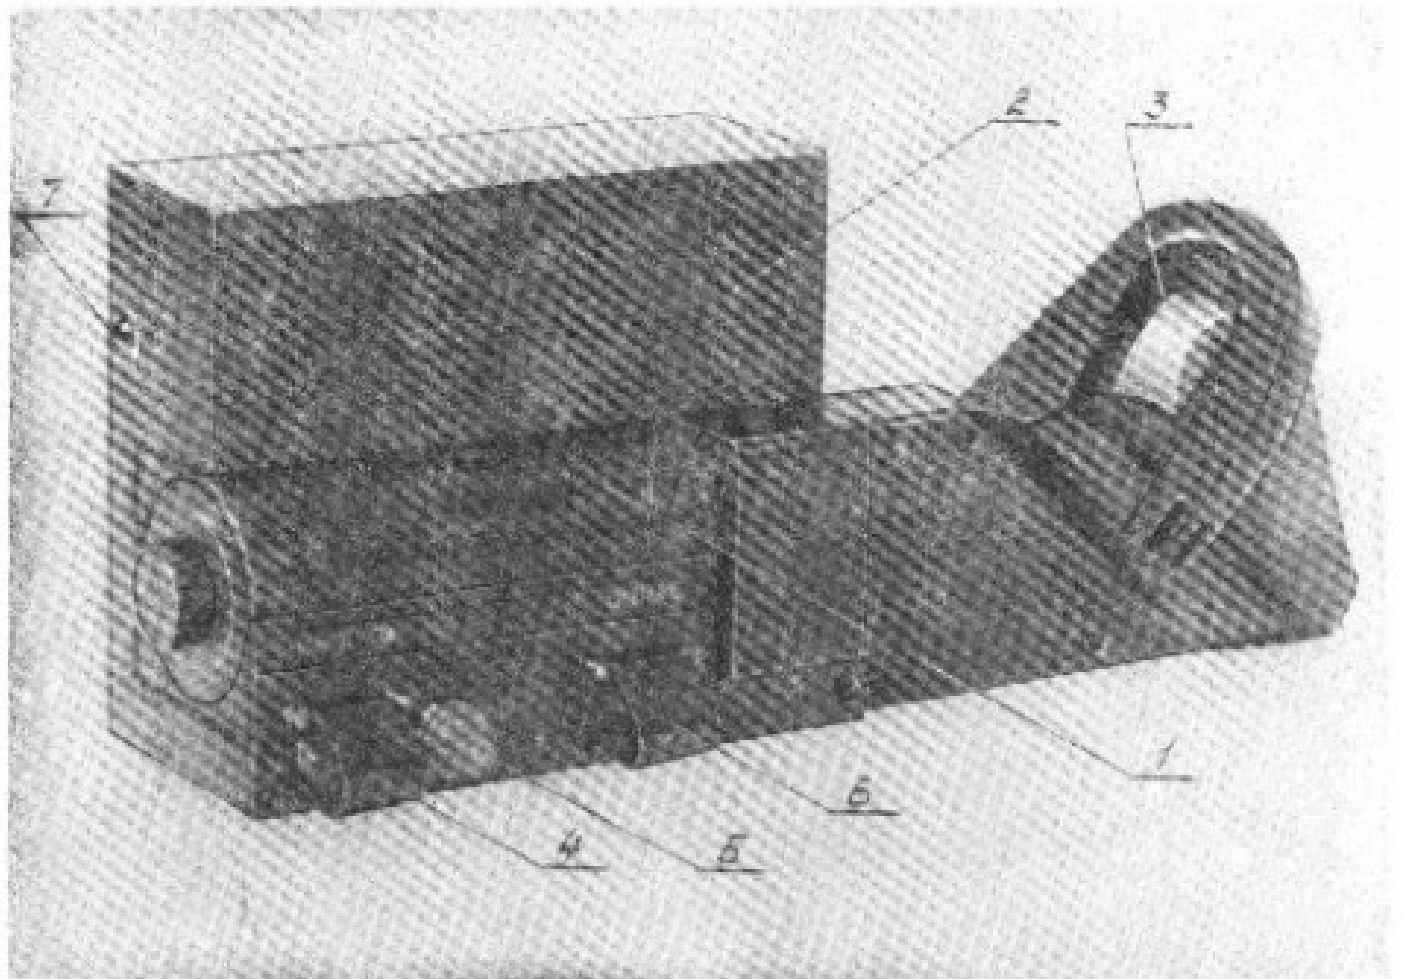

Fig. 1. Electric drive unit
4. 1. The electric drive (Fig. 1) consists of a motor unit 1 and an electronic unit 2, forming a single structure.